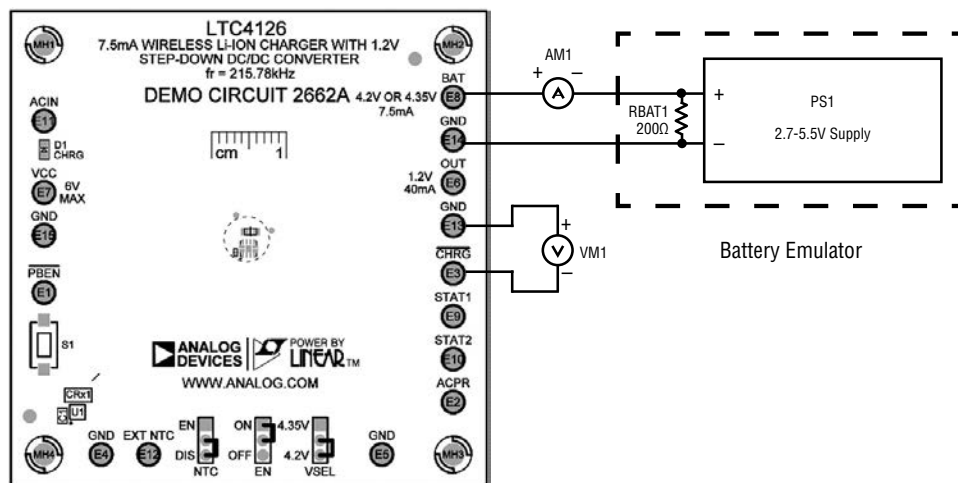
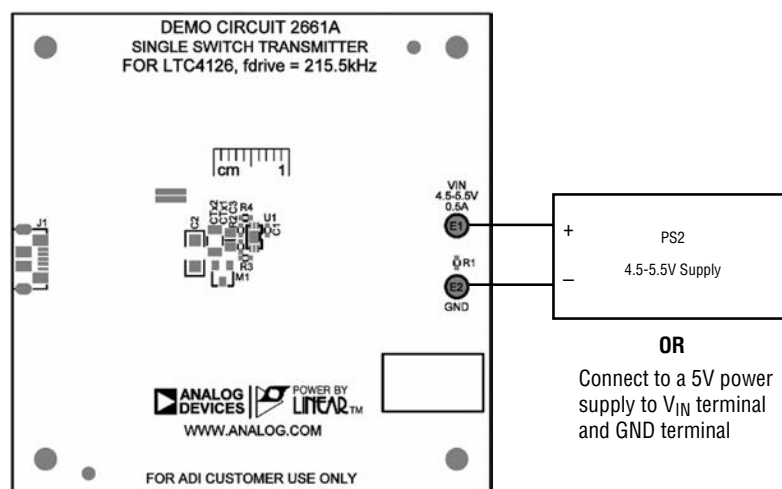

Figure 5. DC2662A Top
Figure 6. DC2661A Top
Refer to Figure 5 and Figure 6 for the proper measurement equipment setup, DC2662A mounting on DC2661A, and follow the procedure below:
1. Plug a Micro-USB cable into DC2661A.J1, with the other end of the cable connected to a computer USB port or a 5V wall wart. The demo may also be powered by applying 4.5-5.5V between V_{IN} terminal DC2661A.E1 and GND terminal DC2661A.E2 (Figure 6).
2. Connect a voltage source PS1 and a 200 Ohm resistor RBAT1 between the BAT and GND terminals DC2662A.E8 and DC2662A.E14, respectively (Figure 5). PS1 and RBAT1 make up the battery emulator. Typical power supplies cannot sink current. By adding a resistor across the power supply inputs that draws more current than the maximum battery charging current, the power supply only sources current even when the battery charge current is at its maximum value.
The WPT for the LTC4126EDC is implemented as resonant power transfer, with the LTC4126EDC rectifying the resonant tank voltage to generate V_{CC} . The LTC4126EDC keeps the voltage at V_{CC} always within 5-5.5V when regulating received power from the WPT transmitter. When the V_{CC} voltage reaches a maximum of 5.5V, an input shunt is activated that diverts the received power. When the voltage at V_{CC} drops to 5 Volts, the shunt is deactivated, and the power is delivered and rectified through ACIN again until V_{CC} rises to 5.5V (see Figure 5).